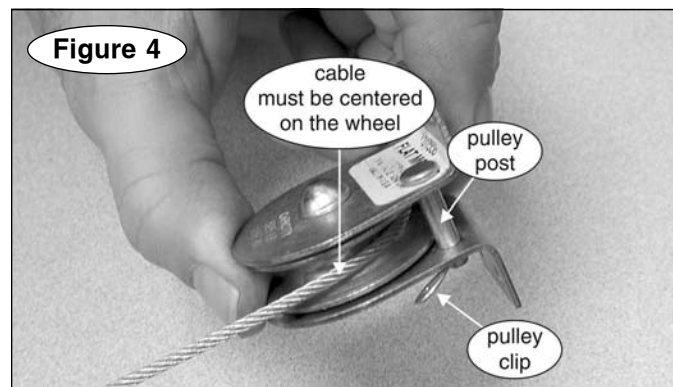

Figure 4
- The pulley (Figure 1) must be positioned directly in line with the L-shaped brake pedal clamp so that the cable aligns directly to the center of the pulley wheel (Figure 4).